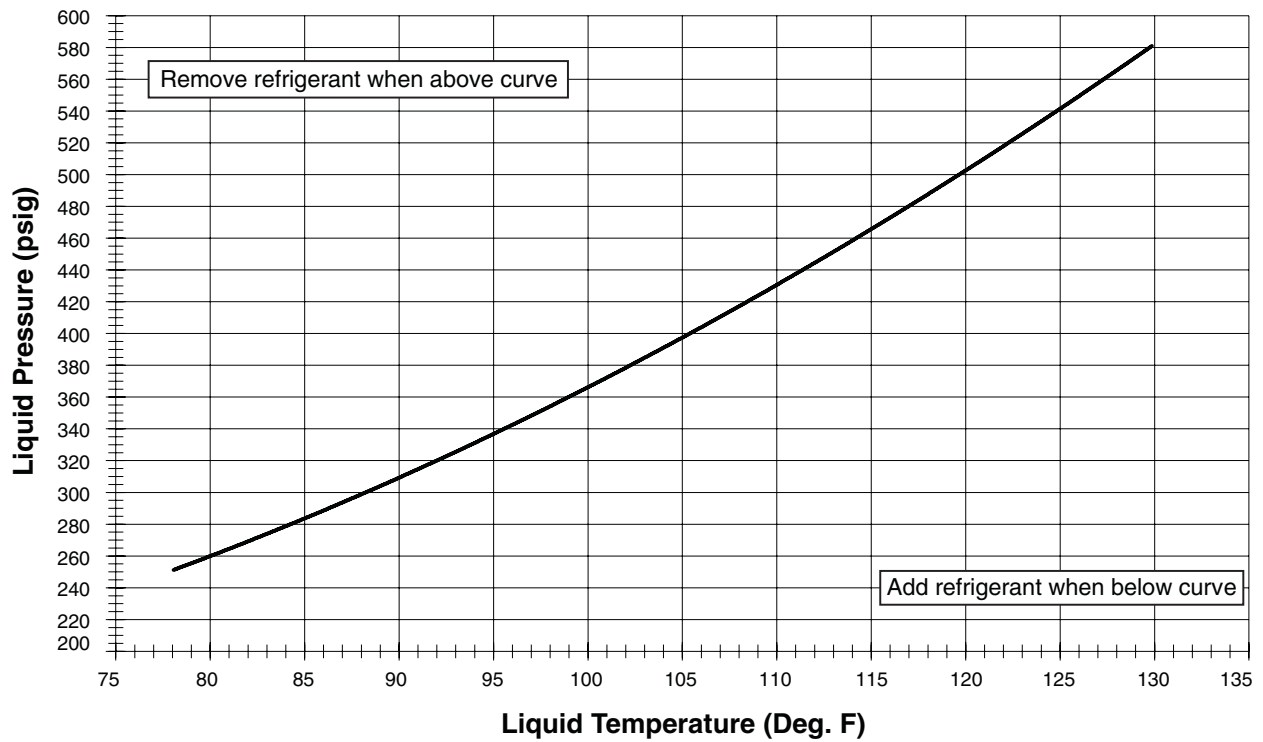
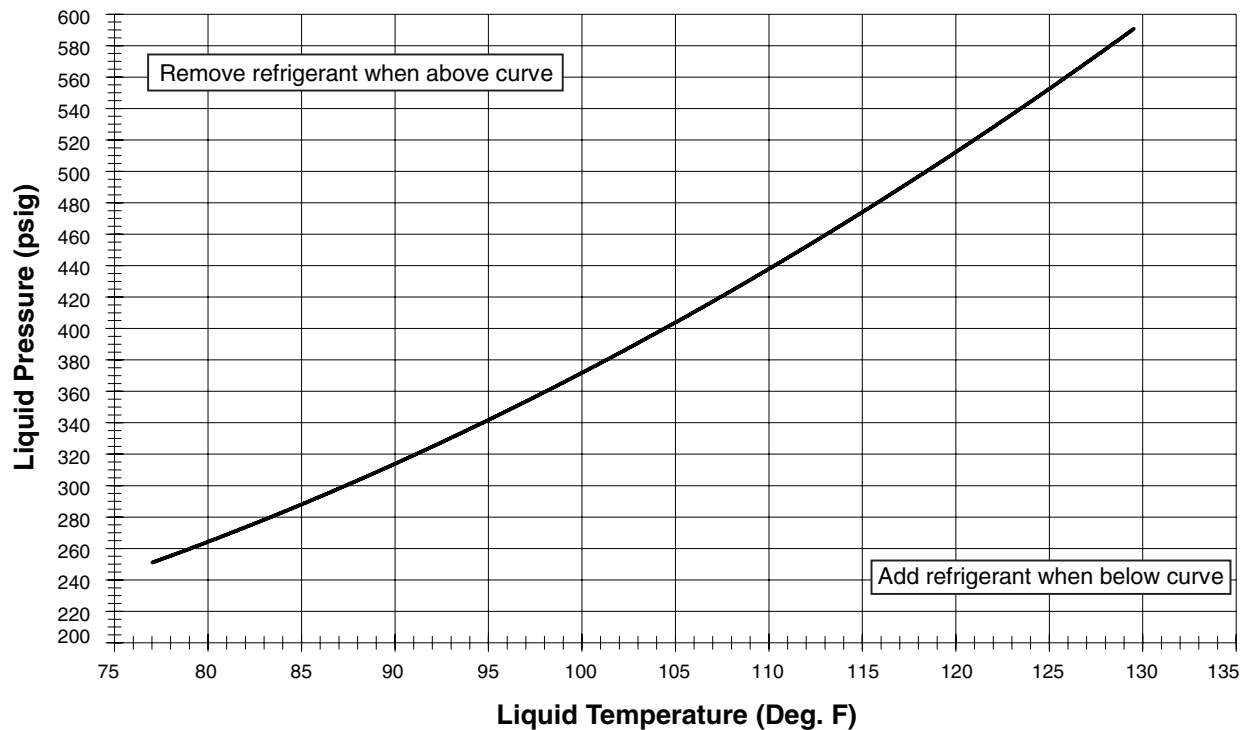
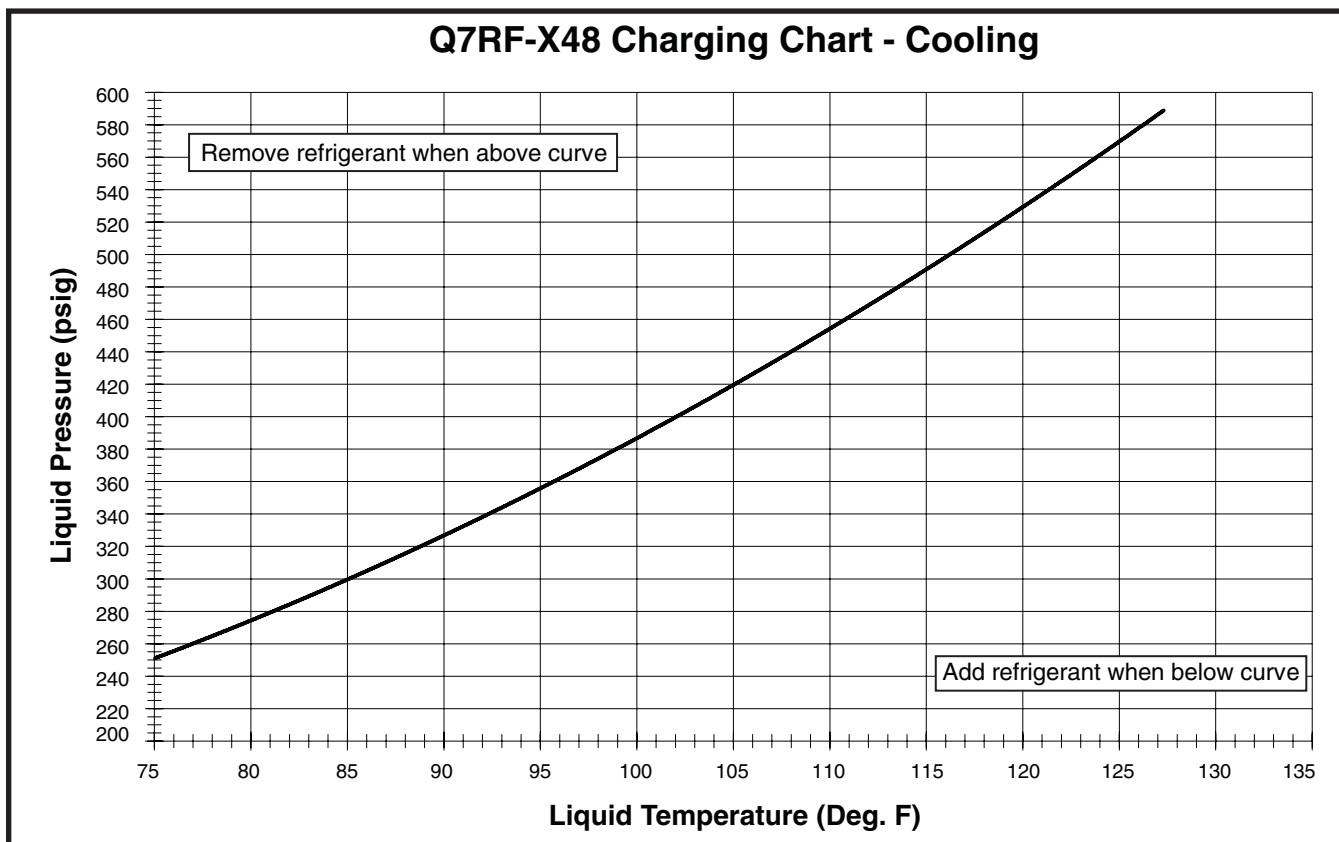
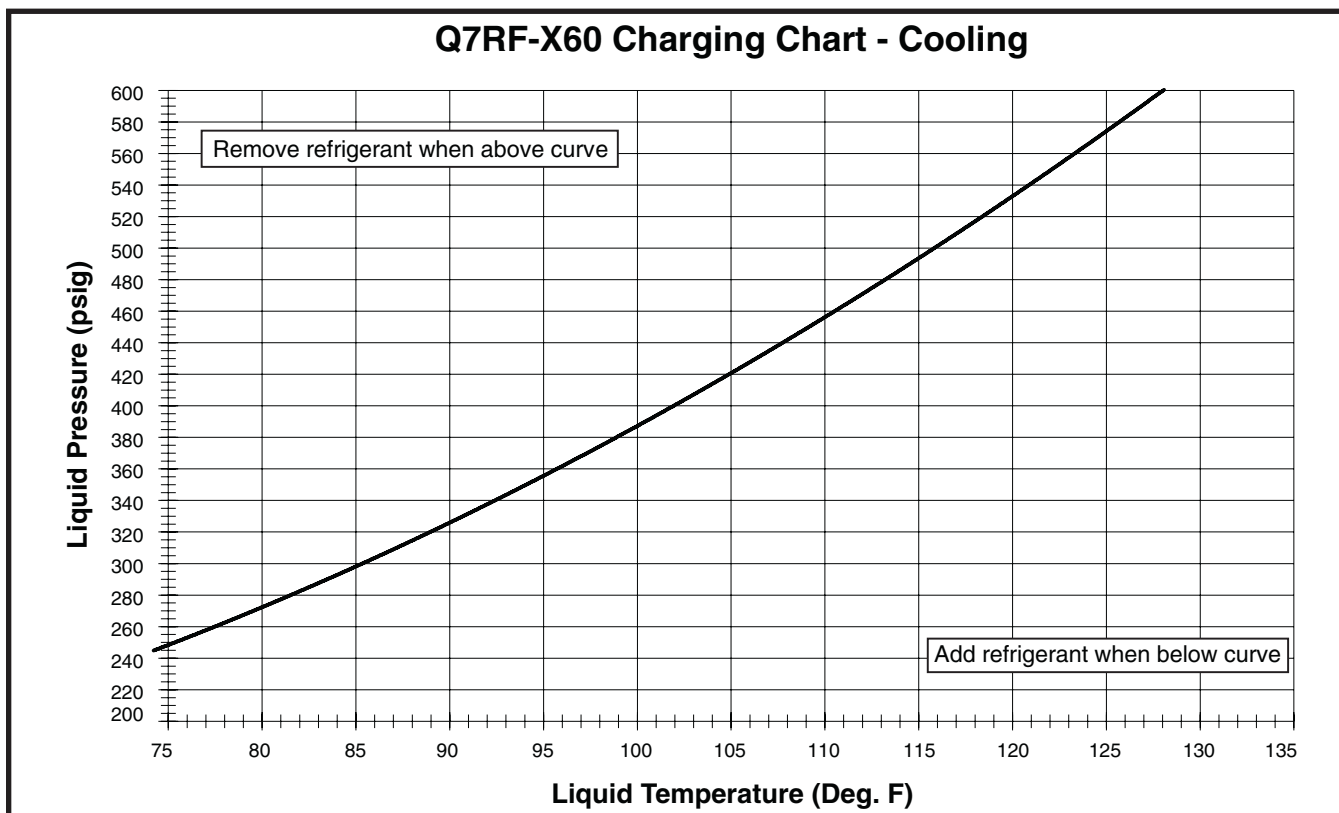

Figure 10. Charging Chart for 2 Ton Units
Figure 11. Charging Chart for 3 Ton Units
Figure 12. Charging Chart for 4 Ton Units
Figure 13. Charging Chart for 5 Ton Units
3. Use Figure 10 \(page 13\), Figure 11 \(page 13\), Figure 12 \(page 14\), & Figure 13 \(page 14\) to verify system conditions (during cooling mode) for proper charge amount.